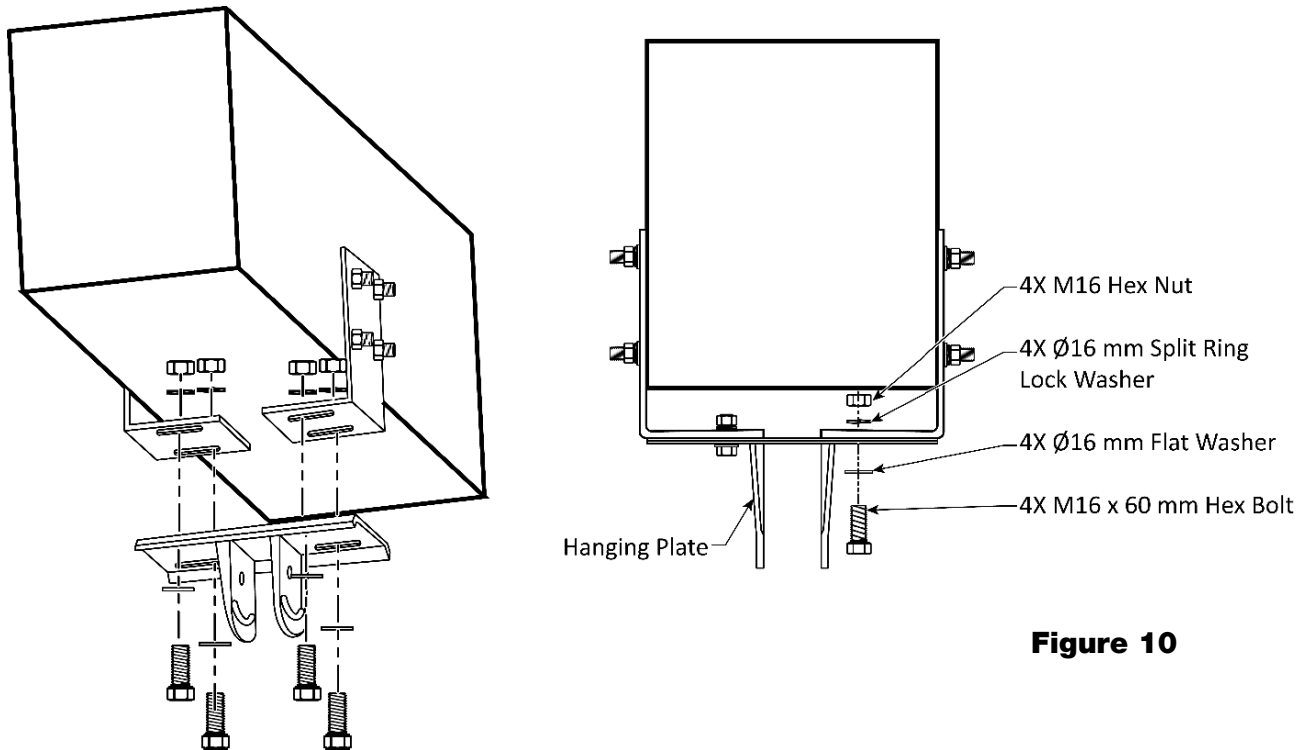

Figure 10
8. Install each L-Adapter with four Flat Washers, Lock Washers, and Hex Nuts. Refer to **figure 10**.
9. Install the Hanging Plate using four M16 x 60 Bolts, Flat Washers, Split Ring Lock Washers, and Hex Nuts. Refer to **figure 10**.